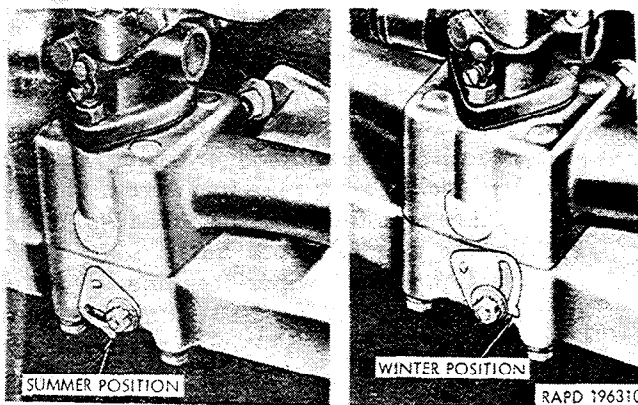

Figure 2-86. Manifold heat control valve.
(16) Install the carburetor air cleaner (para 2-78 d).
(17) On engines equipped with crankcase ventilation shutoff valves, connect and adjust the shutoff valve control (para 2-72 e).
(18) Install the radiator right tie rod in the tie rod bracket on the dash panel with the bracket between the two plain washers, and tighten the two tie rod nuts.
(19) Position the right front fender to hood side panel and install the four lockwasher screws.
g. Adjust Manifold Heat Control Valve. Loosen the control valve adjusting plate stud nut and move the heat control valve plate (B, 2-85) to the proper position for prevailing ambient temperature. Set the plate at **SUMMER** position for ambient temperatures consistently above 60° F. and at **WINTER** position for ambient temperatures consistently below 30° F. (Fig. 2-86). Be sure to tighten the stud nut after adjusting the plate.